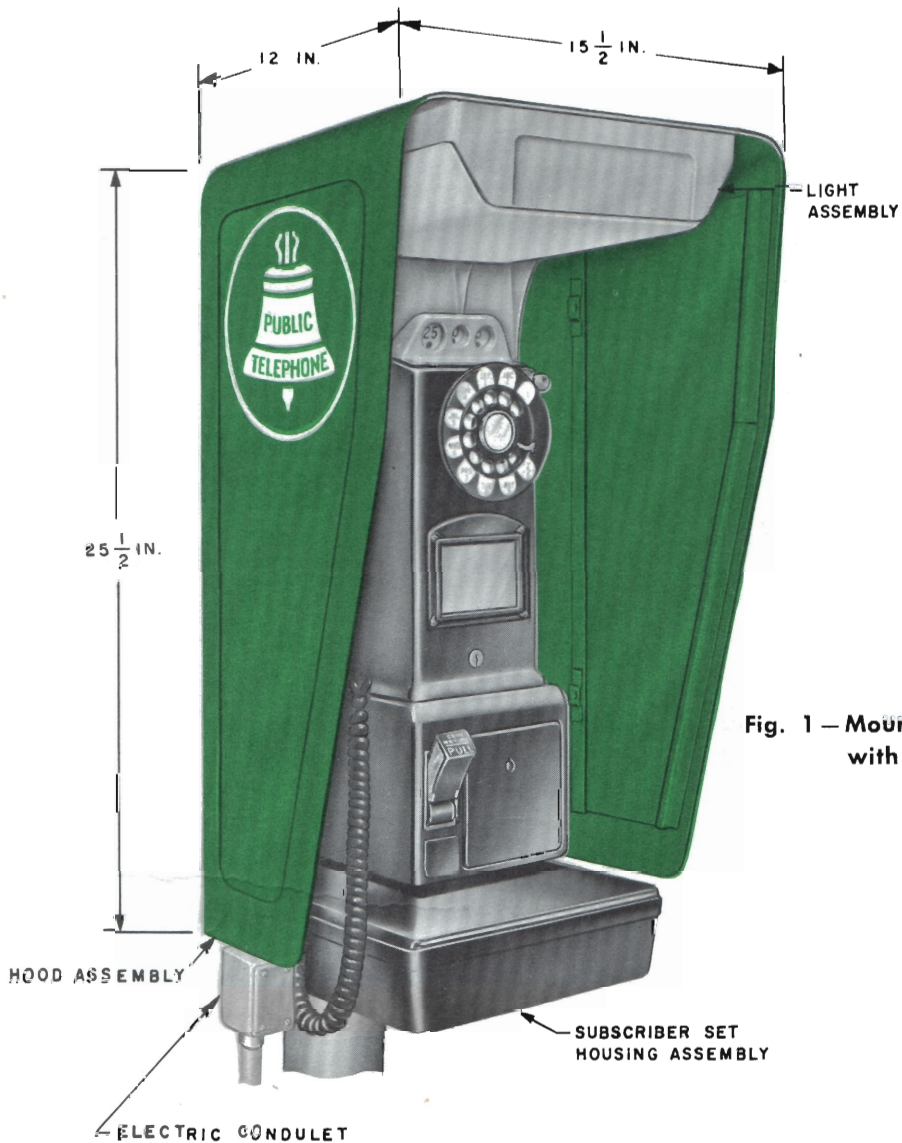

Fig. 1 — Mounting KS-16705
- Add 50K apparatus blank in Fig. 1 and 3.
2.01 Mounting KS-16705 is designed to provide arrangements for a standard coin collector at outdoor drive-up and walk-up public telephone locations (Fig. 1).